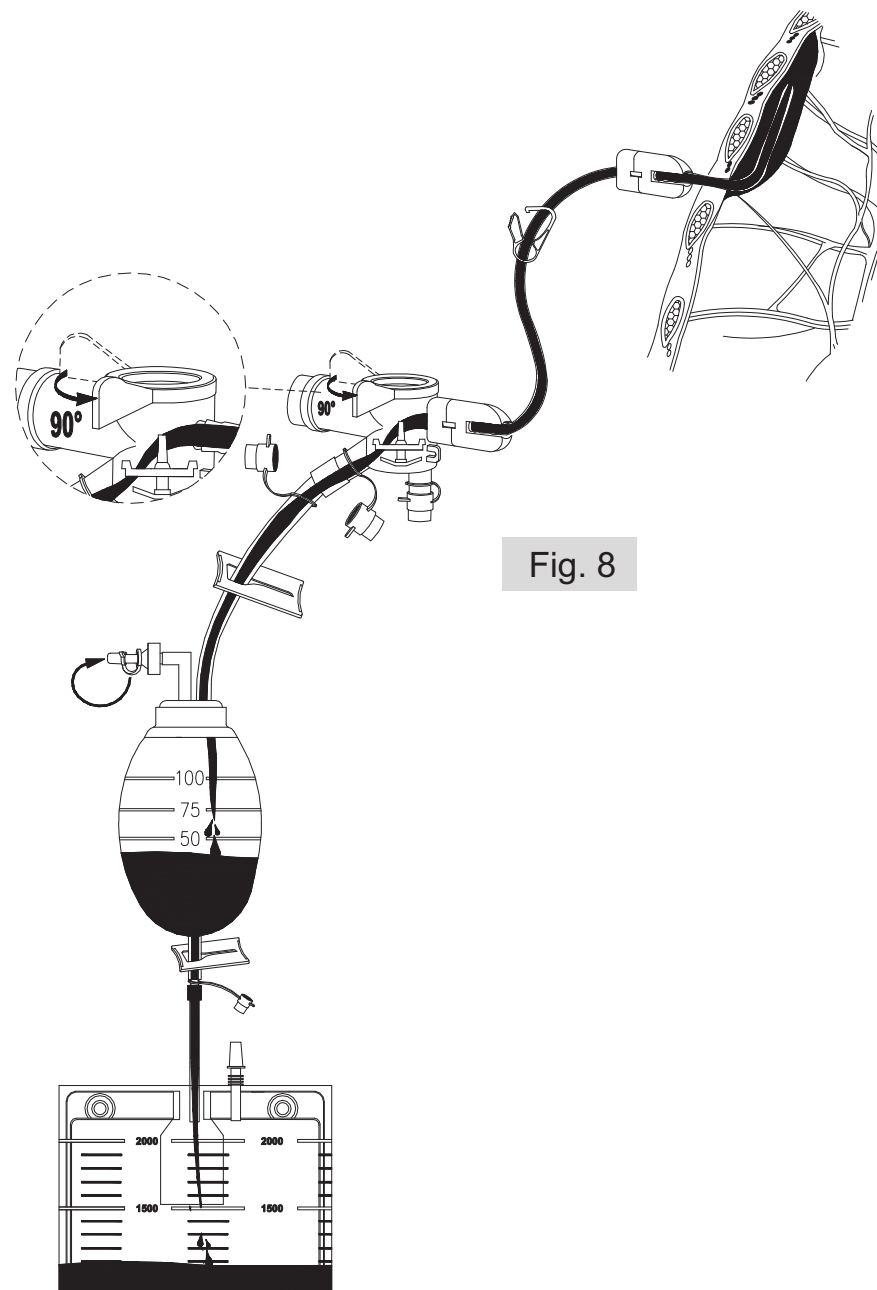

Fig. 8
1. collegare il serbatoio in silicone ad uno dei raccordi luer-lock come mostrato in Fig.8.
- Connect the silicone reservoir to one of the Luer-lock connectors as shown in Fig. 8.
- Close the protective cap on the one-way valve, as shown in Figure 8, and turn the selector on the main body until it stops, which corresponds to an angle of 90° with respect to the initial position. Open the clamp on the inlet of the reservoir and begin collecting the fluids.